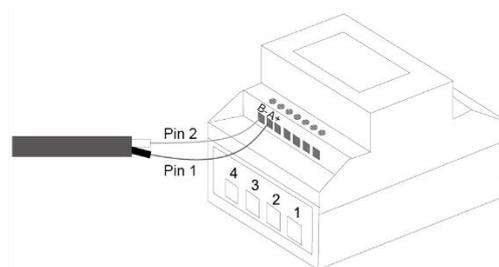

Fig. 34 Connect Network cable at Smart-Meter
4. Fit wire sleeve to the other end of the cable and connect to the contacts of the Smart-Meter. Screwdriver type: PH0, tightening torque: 0.7Nm (see Fig. 34).